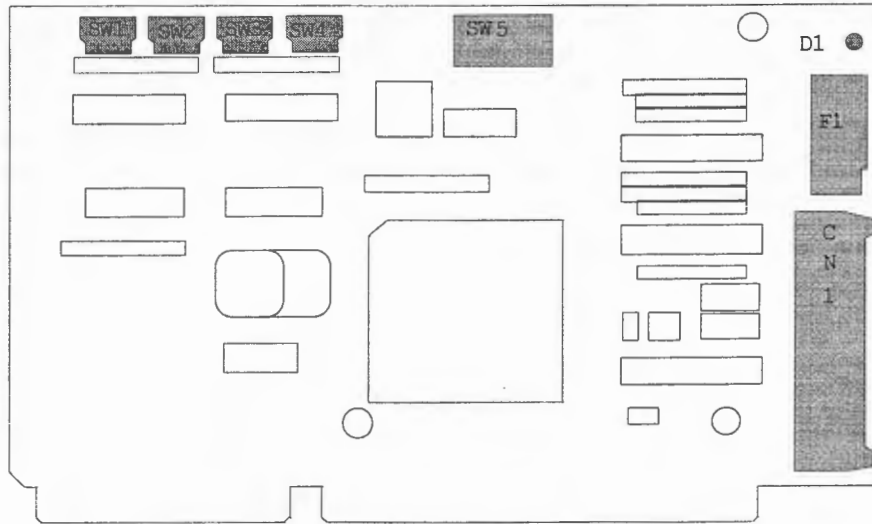

Figure 6: C Bus Dedicated Parallel Interface Board
There are four DIP switches on the C Bus interface board that can be set by the user: SW1, SW2, SW3 and SW4. Set these switches to match the configuration of the system being used. Their locations are shown in Figure 6.
in Figure 6) is on when the breaker is in the normal state and off when an abnormal current condition has occurred.
4. Use the accompanying I/F cable to connect CN1 of the interface board with the HOST I/F connector of Partner-N64PC. Refer to Figure 6 for the location of CN1.